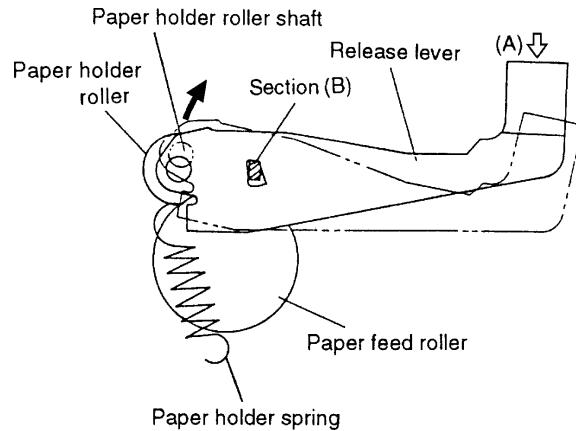

Figure 2-19. Paper Release Operation
Paper release is performed by separate release levers on the journal and release sides. The release levers are in constant contact with the paper holder roller shaft. When the levers are moved in the \Rightarrow direction shown in Figure 2-19, the paper holder roller moves, the link with the paper feed roller is released, and the paper can be removed.
As indicated by the solid line in Figure 2-19, the release lever is linked to the paper holder roller shaft at both sides, in order not to disturb the paper feed roller and paper holder roller. When section (A) of the release lever is pushed in the \Rightarrow direction, the lever rotates in the \rightarrow direction, pivoting around section (B). The paper holder roller shaft and release lever therefore are
separated from the paper feed roller (the dotted line in Figure 2-19). When section (A) of the release lever is not pushed farther, the paper holder spring returns the lever to the original position.